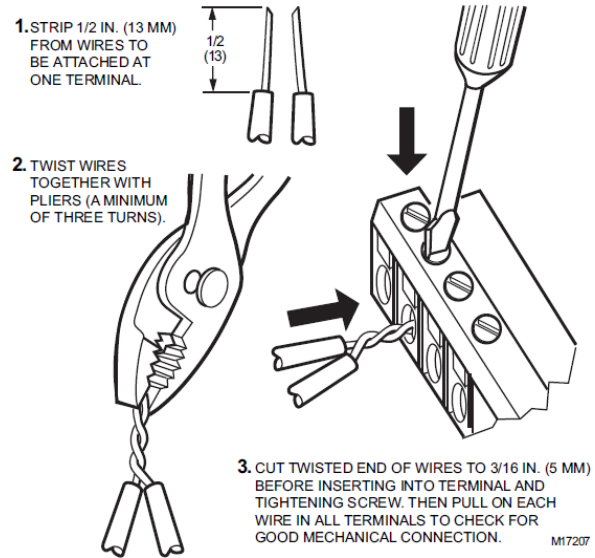

Figure 17: Attaching two or more wires at terminal blocks
<p>When attaching two or more wires to the same terminal, other than 14 AWG (2.0 sq. mm), be sure to twist them together. Deviation from this rule can result in improper electrical contact (Refer to Figure 17).</p> <p>Each terminal can accommodate the following gauges of wire:</p> <p>Single wire: from 22 AWG to 14 AWG solid or stranded</p> <p>Multiple wires: up to two 18 AWG stranded, with 1/4 watt wire-wound resistor</p>
3. If two or more wires are being inserted into one terminal location, twist the wires together a minimum of three turns before inserting them Refer to Figure 17.